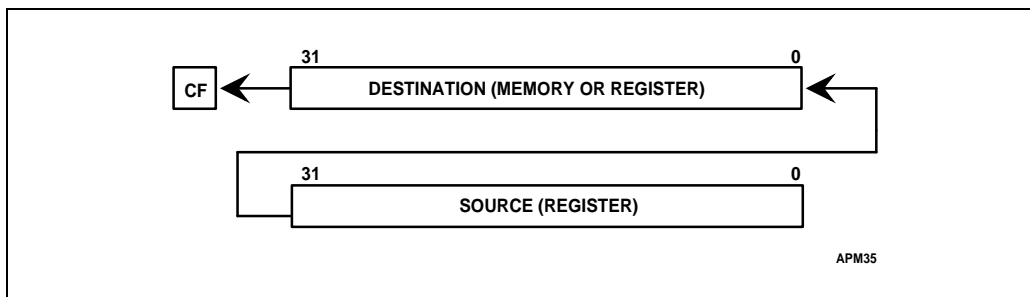

Figure 4-9. SHLD Instruction
**SHLD (Shift Left Double)** shifts bits of the destination operand to the left, while filling empty bit positions with bits shifted out of the source operand (see Figure 4-9). The result is stored back into the destination operand. The source operand is not modified.